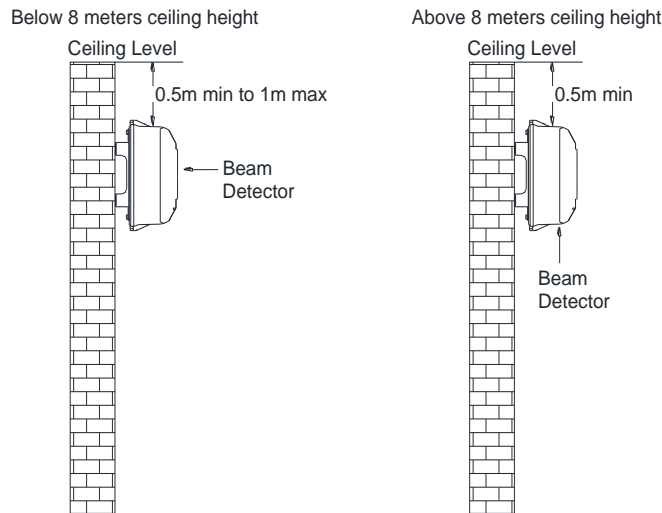

Figure 3: Installation Details
1. Under flat spare area. If the ceiling height is less than 8 meters, the beam detector should be installed 0.5 meter to 1 meter below the ceiling level. Refer to Figure 3.
2. Under flat spare area. If the ceiling height is more than 8 meters, the beam detector should be installed minimum of 0.5 meter below the top ceiling. Refer to Figure 3.